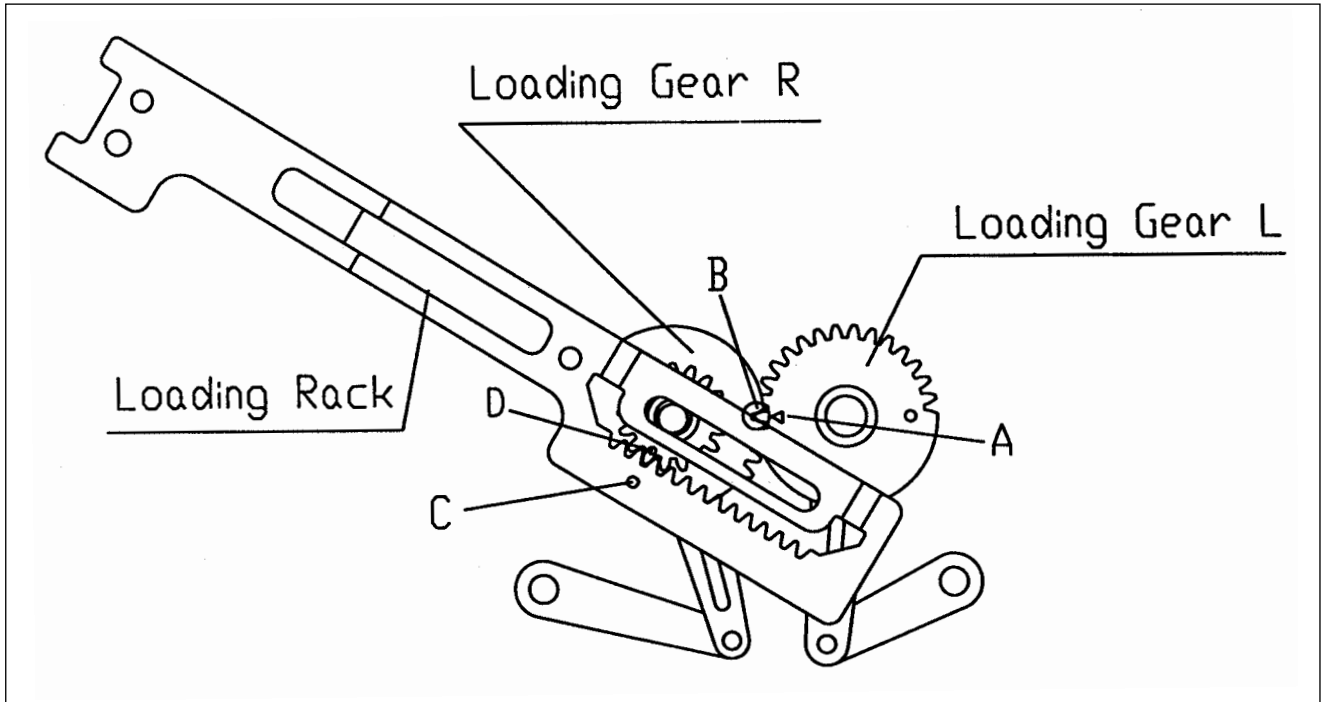

Fig. 5- Mechanical Checks/Loading Loading Rack and Loading Gear Alignment
5. Confirm that the triangular mark "A" on the Loading Gear L Ass'y is aligned with the notch "B" in the Loading Gear R Ass'y in EJECT mode (Fig. 5)
6. Make sure that the teeth of the Loading Rack are aligned with the those of the Loading Gear R so that hole "C" of the Loading Rack aligns with the circular mark "D" on the Loading Gear R (fig. 5)